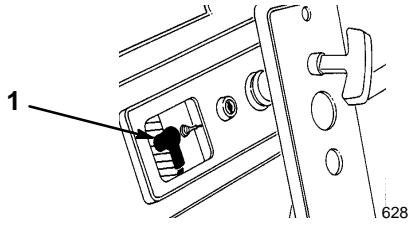

Figure 23
3. Pull the wire off the spark plug and remove the spark plug (Fig. 23).